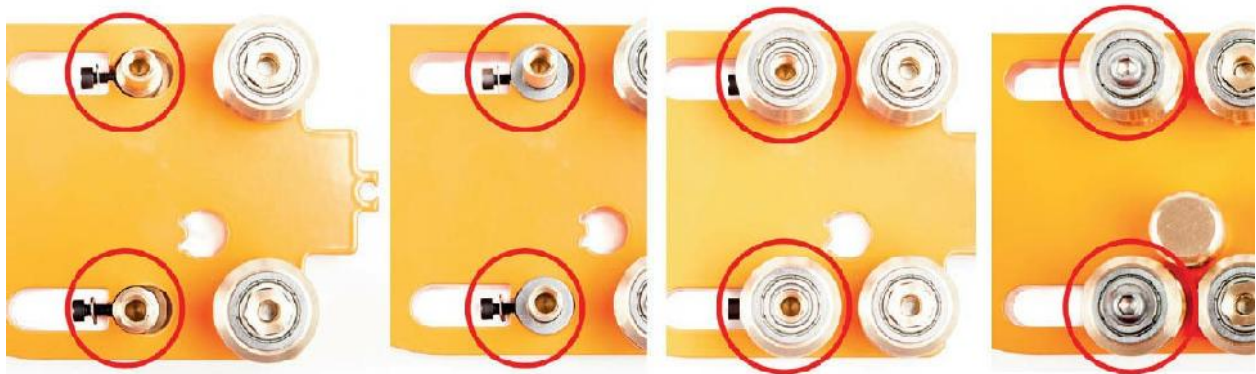

Fig. 2.35 *Mounting the upper rollers*
6. Insert the roller holders into their holes in the gantry side panel, as shown in figure 2.35 (on the left), making sure that the washers are located between the head of the bolt and the panel.